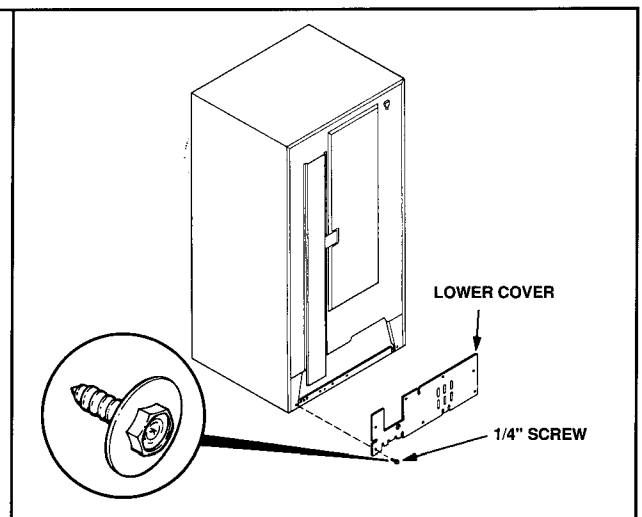

Figure 27
3. Remove the lower cover from the back of the refrigerator. See Figure 27. Do not discard the lower cover; it must be reinstalled after the ice maker kit installation is completed.